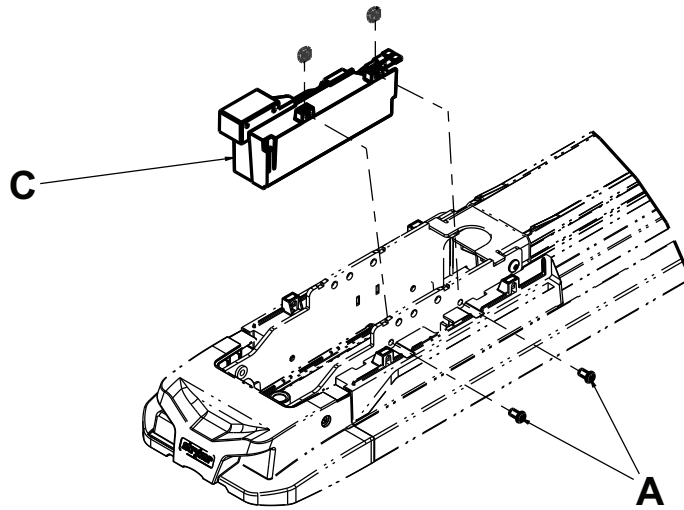

Figure 4 – Replacing the inductive primary board
- Using a T27 Torx driver, remove the two screws (A) that secure the inductive charging assembly (C) to the foot end weldment (Figure 4). Save the screws.